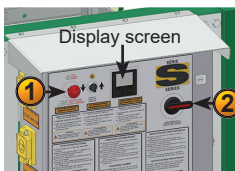

fig. 2.36
- 1- Turn on the main disconnect switch, pull out the emergency stop button and unlock the display screen (fig. 2.36). Make sure that the inclinometer and communication options have been disabled on the screen (fig. 2.39). Refer to p. 63 of the *Power Pack and Operating Components* section for instructions on how to turn on the main power. For information about the functions and alerts of the display screen, refer to p. 67 of the *Control Panel* section.